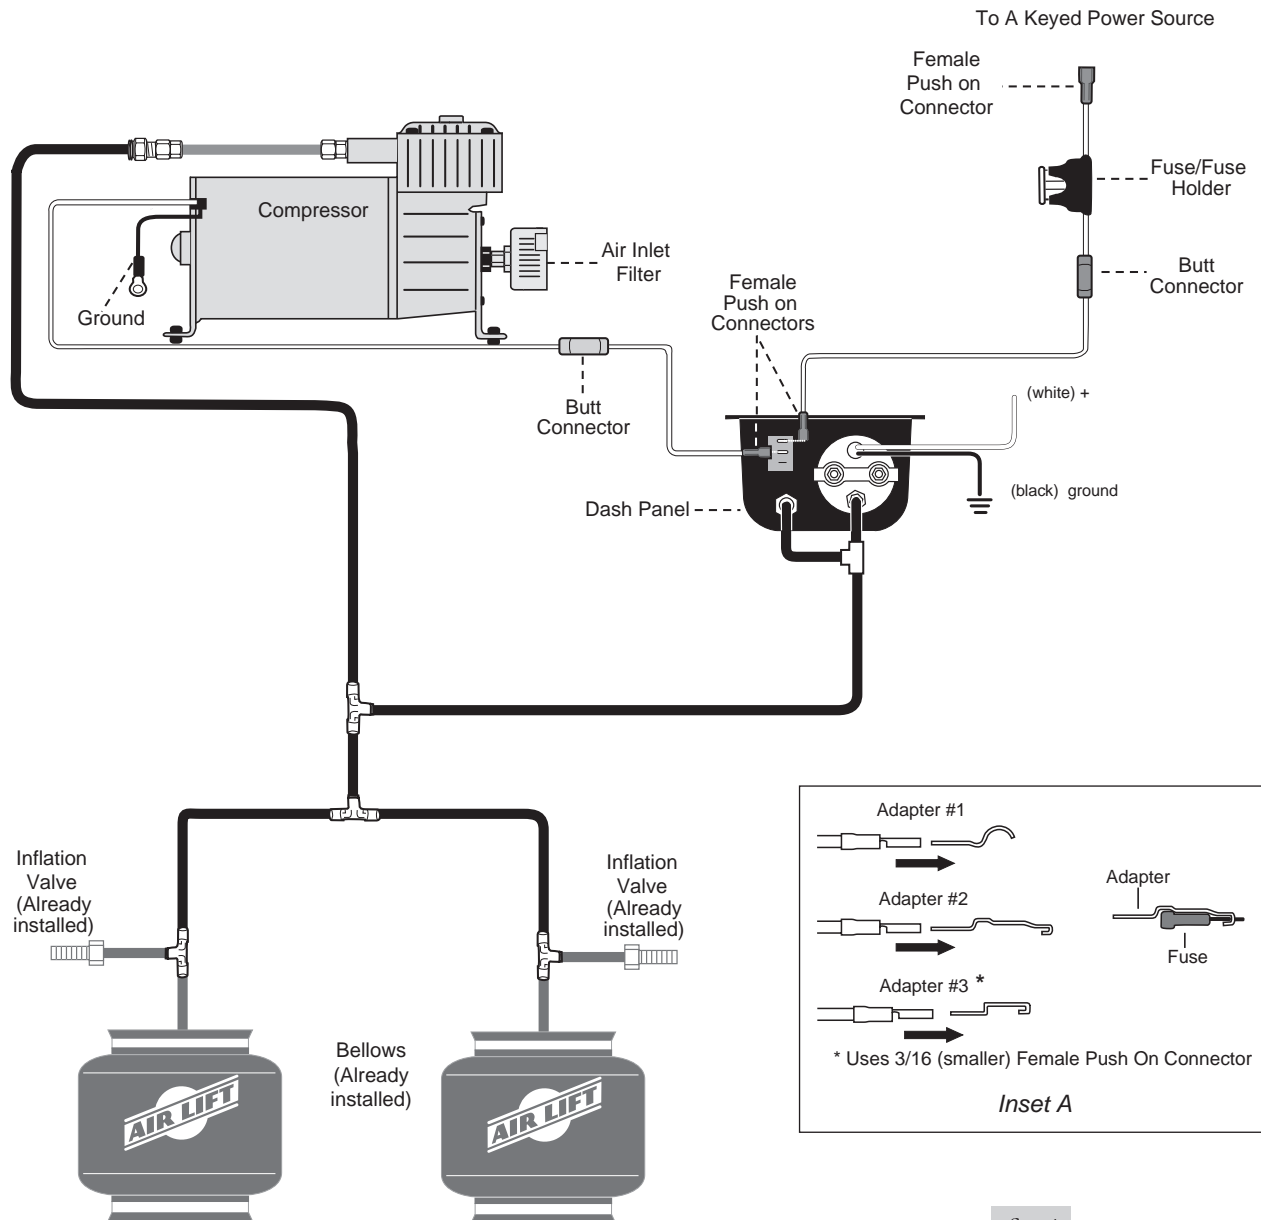

fig. 1
3. Connect the (red) wire from the panel to the (red) wire on the compressor using a blue butt connector (Figure 1). Connect the other end of the wire to the push switch using the blue  $\frac{3}{16}$  female push on connector. With your thumb against the front side of the switch, push the connector onto one of the terminals on the back of the ON/OFF switch on the gauge panel
5. Determine the length of supplied (red) wire required to connect the dash panel to the fuse assembly. Cut and crimp the wire into the butt connector (Fig. 1). Connect the other end of the wire to the push switch using the blue  $\frac{3}{16}$  female push on connector. With
4. Determine the location of the third tee. Cut the air line between the first two tees and install a third (Figs. 1 & 5).
7. Determine the closest and easiest area to connect the gauge panel to the air line between the compressor and air springs. Measure the distance between these two points and cut the air line and install the last tee (Figs. 1 & 5).